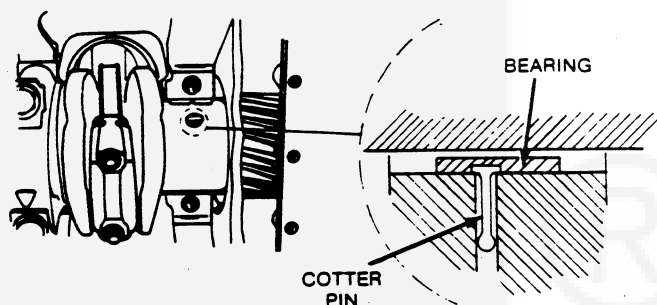

FIGURE 42. REMOVING UPPER MAIN BEARING SHELL
- A. Insert a cotter pin with head flattened, into crankshaft main bearing oil hole (Figure 42).